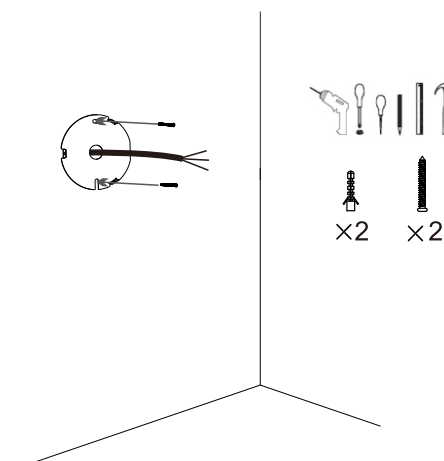

Fig.3
- 1.4 Knock the expansion plugs into the holes in the wall with a hammer, and then tighten the screws with a screwdriver to fix the bar, and calibrate the level with a spirit level (Fig. 3).